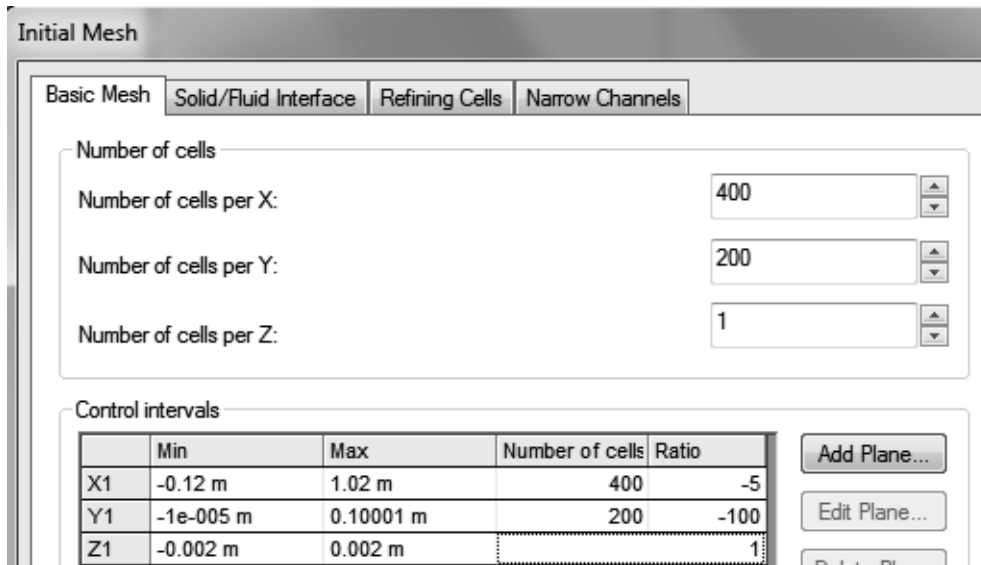

Figure 2.28b) Increasing the number of cells and the distribution of cells
2.7 Change the distribution of cells using different values of the ratios in the X and Y directions see figure 2.28b) for the turbulent boundary layer and plot graphs of the boundary layer thickness, displacement thickness, momentum thickness and local friction coefficient versus Reynolds number for different combinations of ratios. Compare with theoretical results.